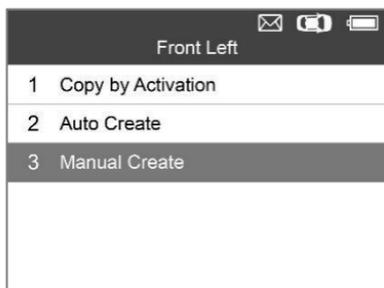
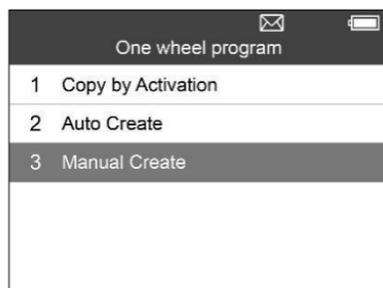

Figure 5-22
Figure 5-23
- 2) Use the **UP/DOWN** scroll button to select **Manual Create** and press the **Y** button (Figure 5-22 for All Wheel Mode, Figure 5-23 for One Wheel Mode).